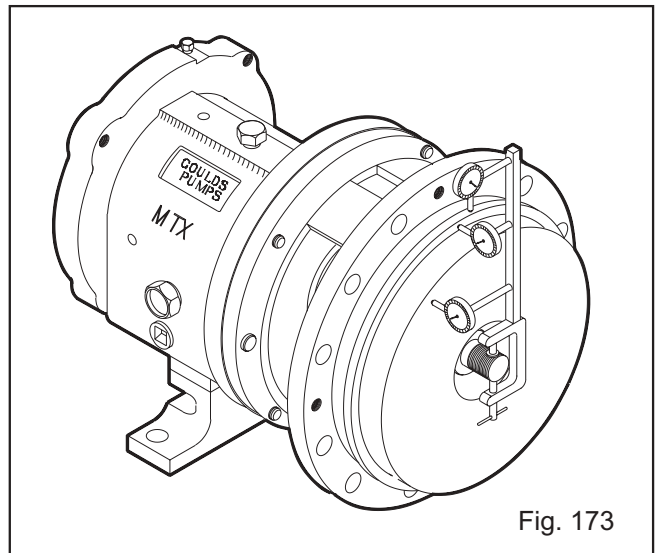

Fig. 173
9. Check stuffing box cover run-out. Rotate indicator through all 360 degrees. Total indicator reading greater than 0.005 in. indicates a problem (Fig. 173).